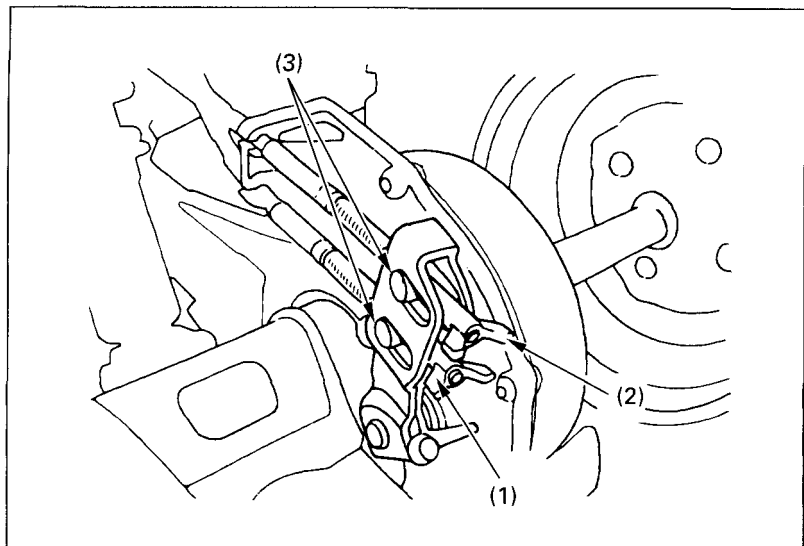

Fig. 4-27 (1) Brake pedal adjusting nut (3) Brake arm pins
(1) Rear brake pedal
To adjust the free play, turn the brake pedal adjusting nut (1), (Fig. 4-27), located on the brake operating rod at the rear of the frame. Make sure the cut-out on the adjusting rod is properly seated on the brake arm pin (3).
To adjust the free play, turn the brake lever adjusting nut (2), (Fig. 4-27), located on the brake operating rod at the rear of the frame. Make sure the cut-out on the adjusting nut is properly seated on the brake arm pin (3).